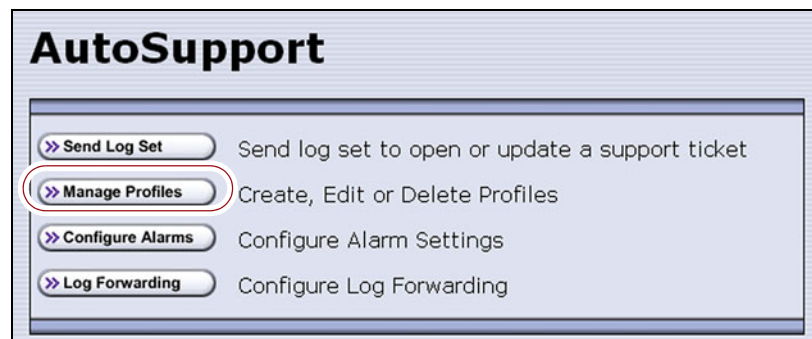

Figure 208 Click **Manage Profiles** to create or edit an AutoSupport profile.
If one of the profiles is configured as an AutoSend recipient, the **Configure Alarms** button is active (see Figure 208 on page 344).
2. From the toolbar menu, select **Maintenance** ... **AutoSupport**. The AutoSupport screen displays (see Figure 208 on page 344).